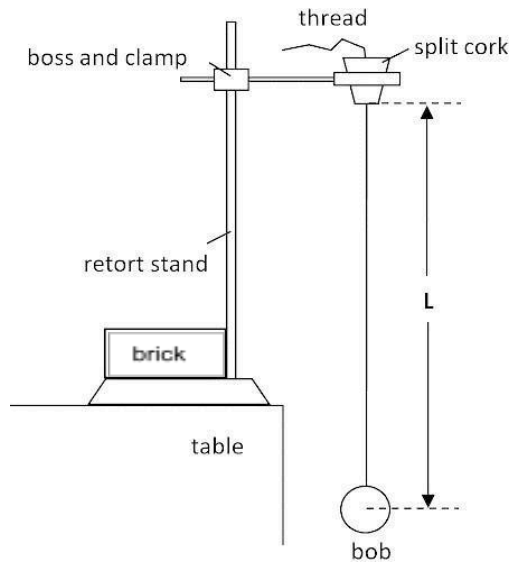

Figure 1
1. Set up apparatus as shown in Figure 1 on a levelled surface.